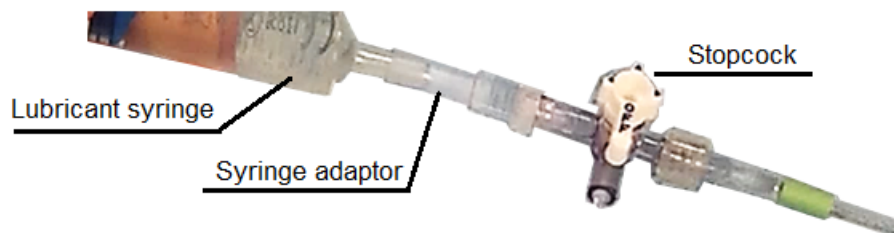

Figure 10: Lubricant syringe with adaptor and stopcock
- a. Connect the provided three-way stopcock and the syringe adapter to both the green and black-labeled channels (*Figure 10*).
- b. Connect the provided low-viscosity lubricant syringes to the syringe adapters by pressing the taper on the syringe into the syringe adapter tubing (*Figure 10*).